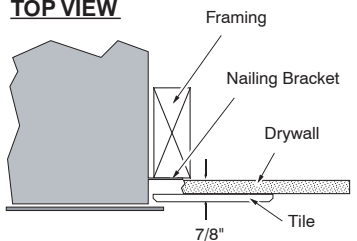

Figure 4
- Nailing brackets are provided on the exterior of the fireplace to secure the fireplace to the framing (see Figure 4). If using 1/2" facing (i.e.: drywall), use the standoff closest to the face of the fireplace (see Figure 4 item "a"). If using 7/8" to 1" facing, use the other standoff (see Figure 4 item "b").